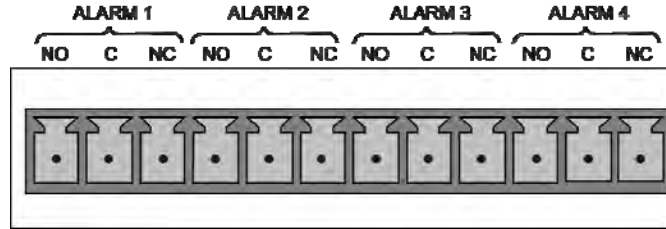

Figure 5-2: Concentration Alarm Relay
The Teledyne API “E” series analyzers have an option for four (4) “dry contact” relays on the rear panel of the instrument. This relay option is different from and in addition to the “Contact Closures” that come standard on all TAPI instruments. The relays have 3 pins that have connections on the rear panel (refer Figure 5-2). They are a Common (C), a Normally Open (NO), & a Normally Closed (NC) pin.